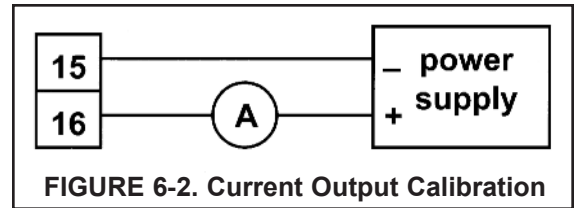

FIGURE 6-2. Current Output Calibration
1. Wire an accurate milliammeter as shown in Figure 6-2.